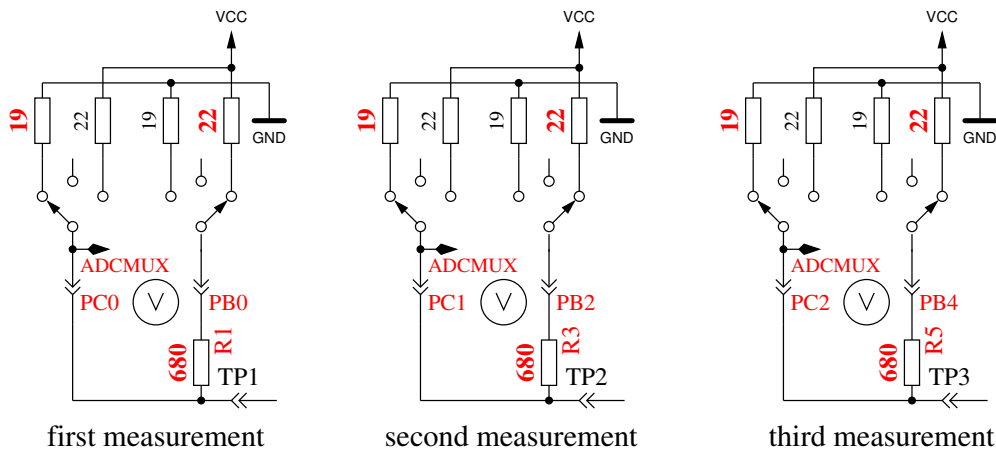

Figure 5.62. Measurement of internal resistance of Port C switched to GND
5. **This step tests the capability of GND (-) connected 470kΩ resistors (H) to pull the test pins to GND.** Row 1 shows the text “RH-”. Row 2 should display zero for all three pins.
6. **This step tests the capability of VCC (+) connected 470kΩ resistors (H) to pull the test pins to VCC (+).** Row 1 shows the text “RH+”. The results are shown als difference to VCC and should be near zero. Great differences from the best value for test 5 and 6 are errors such as isolation problem, flux material or damaged port.
8. **Measuring of internal resistance of pin output switched to the GND signal.** This test and the follwing tests will only be done, if the option AUTO\_CAL is selected. The internal resistance of the port C outputs switched to GND (-) are measured with the current of to VCC (+) switched 680Ω resistors, see Figure 5.62. Only the three pins of the ADC port are measured, the resistor port B (PB0,PB2 and PB4) can not be measured without hardware modification. Is is assumed that the port resistance of the different ports are nearly identical. The resistor value will be shown in the next test.